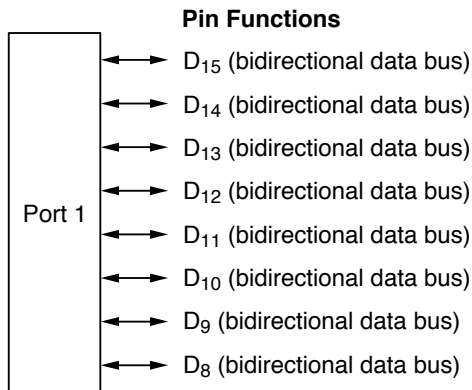

Figure 9-3 Pin Functions in Modes 1 to 6
(1) Pin Functions in Externally Expanded Modes (Modes 1 to 6): The settings in P1DDR are ignored. Port 1 automatically becomes a bidirectional data bus. Figure 9-3 shows the pin functions in modes 1 to 6.